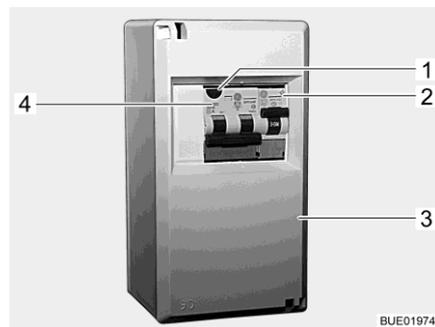

Fig. 129 230 V fuse box
A combined fault current protection switch / safety cut-out (Fig. 129,4) in the fuse box (Fig. 129,3) protects the complete vehicle from fault current (0.03 A).
For vehicles with special equipment (e.g. air conditioning unit) an additional safety cut-out (10 A) (Fig. 129,2) secures the device.
- When the vehicle is connected to the 230 V power supply, press the test button (Fig. 129,1). The fault current protection switch must trip.